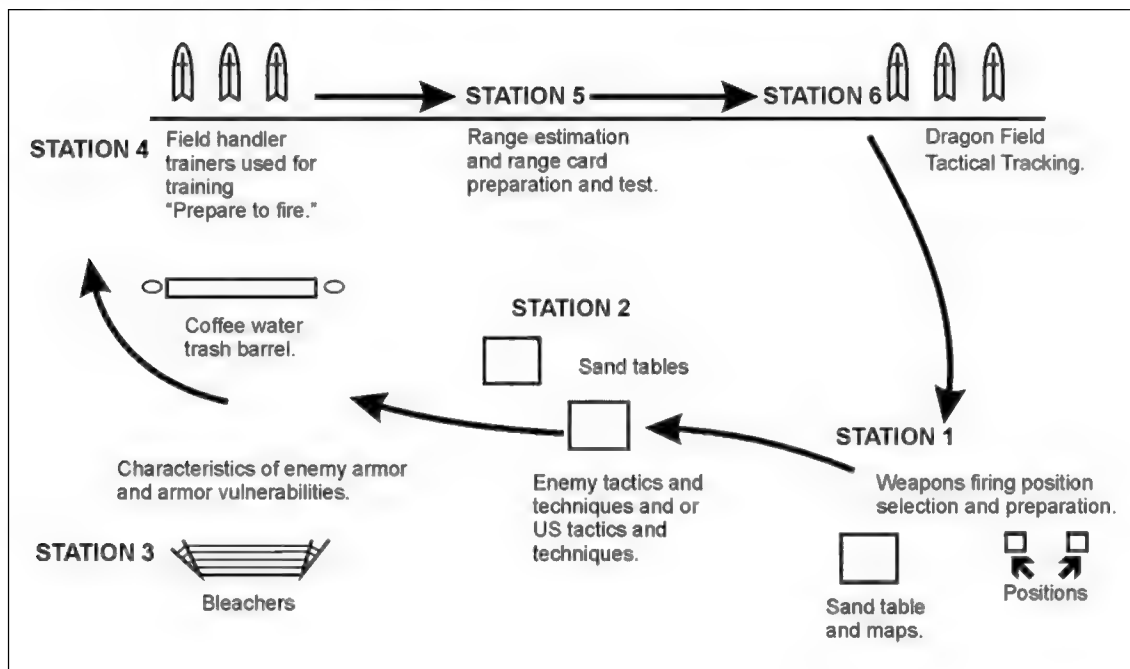

Figure 4-1. Example of round-robin training.
(2) *Round-Robin Training.* Battalions have a limited number of training sets, so soldiers cannot practice all at once. Rather than letting a few soldiers practice on the equipment while others watch, trainers can set up round-robin (multistation) training. Soldiers then rotate through the stations. This keeps everyone actively engaged in training the whole time. For example, soldiers might train on the equipment itself at Station Number 1, learn to prepare range cards at Station Number 2, and learn to identify enemy vehicles at Station Number 3 (Figure 4-1).